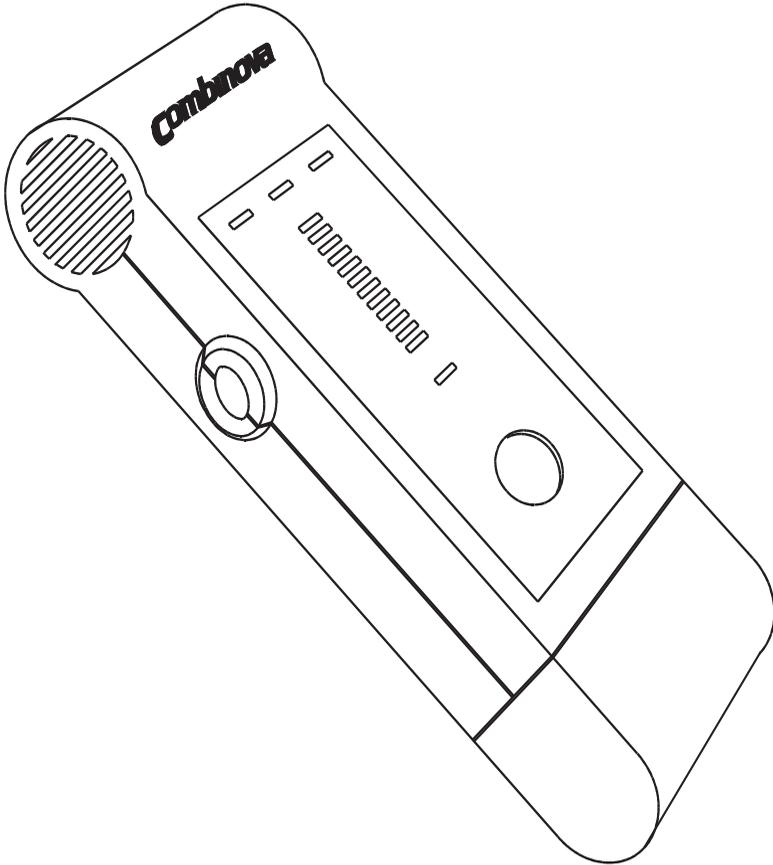

Figure. 1.1 Dosimetern
1.3 The dosimeter (Figure 1.1)